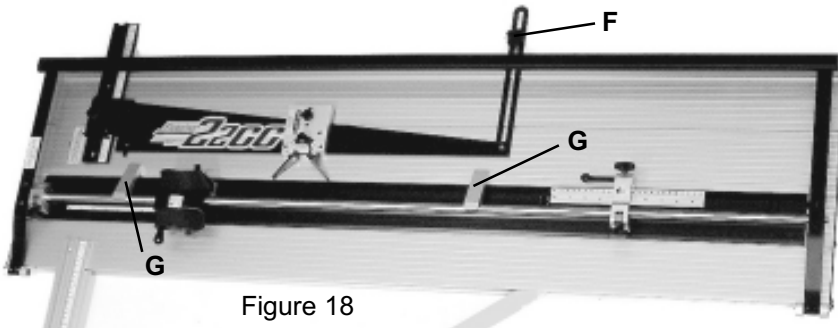

Figure 18
other near the top, as in Figure 18. Remove the **Locator Pin (A)** and use your left hand to slide the **Mat Guide** firmly against both **Squaring Fixtures**. While keeping pressure against the **Squaring Fixtures** tighten the **Lower Locking Knob (B)** then the left hand screw (**C**), followed by the right hand screw (**D**) on the **Mat Guide Slide (E)**. Be sure to leave the **Upper Locking Knob (F)** loose during this adjustment. Retest for squareness as in item 3 above.